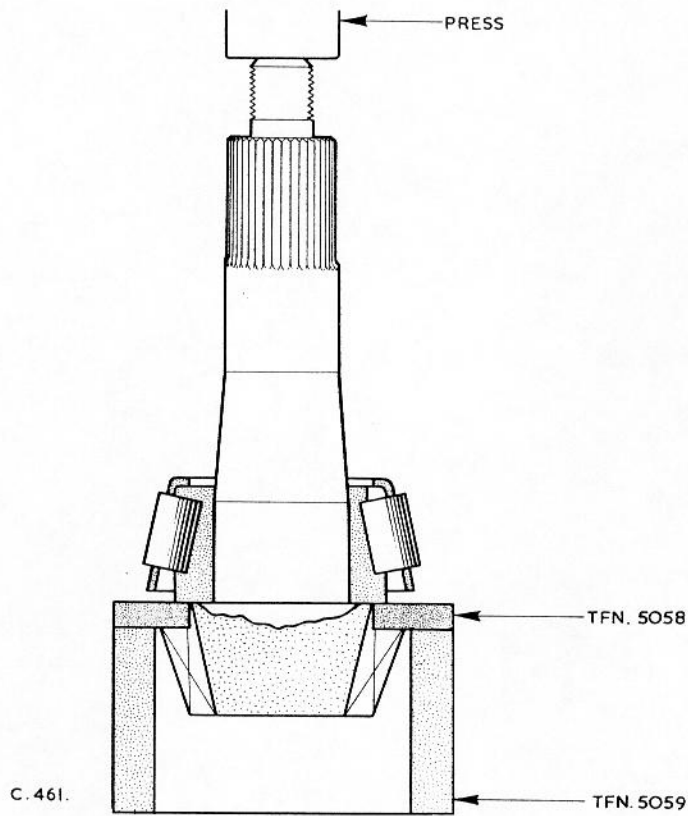

Fig. 12 Pressing rear bearing from driving pinion.
1. Using the tools TFN. 5058 and TFN. 5059, remove the roller race as shown in Fig. 12.